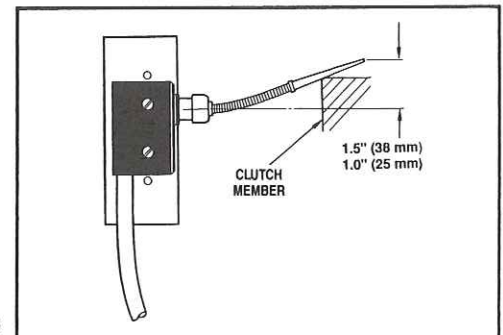

Fig. 33
3. Adjust the switch by moving it along the mounting bracket. The actuator arm should be deflected 1.0 - 1.5 in. (25-38 mm), measured at the tip of the actuator, when the clutch pedal is in the up (clutch engaged) position. See Fig. 33.